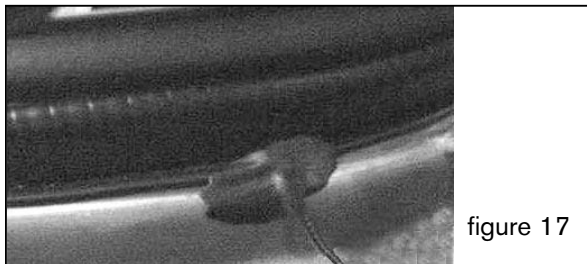

figure 17
- (1) Reinstall all removed vehicle parts referring to the service manual for the vehicle.
- (2) After reinstalling the weather stripping spread butyl gum over the antenna and weather stripping to close any gaps and improve the seal. figure 17
- (3) Be sure to engage all clips on parcel trunk finisher.
- (4) Clean vehicle interior.